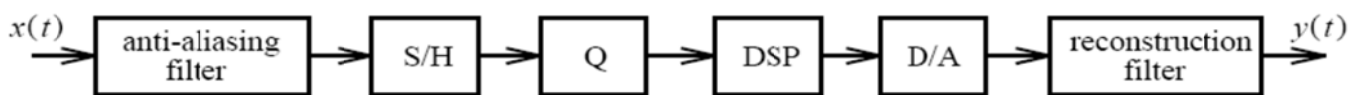

Figure 1: A block diagram of a practical DSP system.
Figure 1 shows a block diagram of a typical digital signal processing (DSP) system. On the Nexys 2 the ADC has a low pass filter with nominal cut-off frequency of around 500 kHz, however additional 10 kHz lowpass filters can be inserted at input and output. The Nexys 2 codec is implemented as separate analogue to digital (A2D) and digital to analogue (D2A) converters, these being represented by the sample and hold (S/H) plus quantiser (Q) and D/A blocks in Figure 1 respectively. Finally, the DSP block in Figure 1 is where the difference equation for implementing the desired digital filter is performed.
3. If the DSP block in Figure 1 is assumed to have a sampling frequency of 25 kHz and performs the following difference equation: $y[n] = x[n]$, (that is, the output of the A2D is copied directly to the input of the D2A) what is the frequency and approximate amplitude of the signal, $y(t)$, observed at the **output** of the reconstruction filter, when:
1. What components of the block diagram in Figure 1 are contributing to your measured $H(\omega)$?
3. How can these distortions be explained? i.e., which components of Figure 1 are causing them? And what effect is aliasing having? Is your input signal amplitude too high?